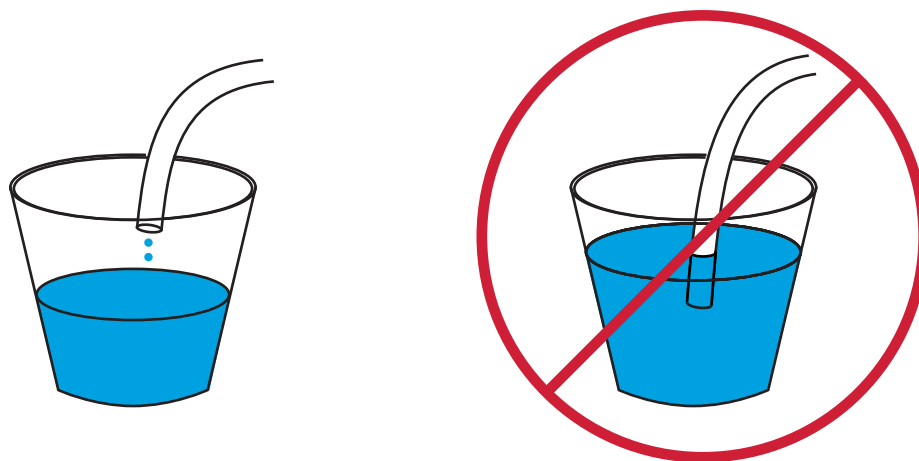

Figure 30. Drip tube correctly hung (left) and incorrectly submersed (right)
- The open end of the tubing is not submerged in the drainage container (**Figure 30**, "Drip tube correctly hung (left) and incorrectly submersed (right)," on page 61).